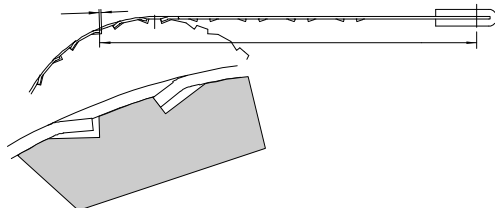

Fig. 7
- c) Left backlash (Fig. 7) Band too long Tension too high